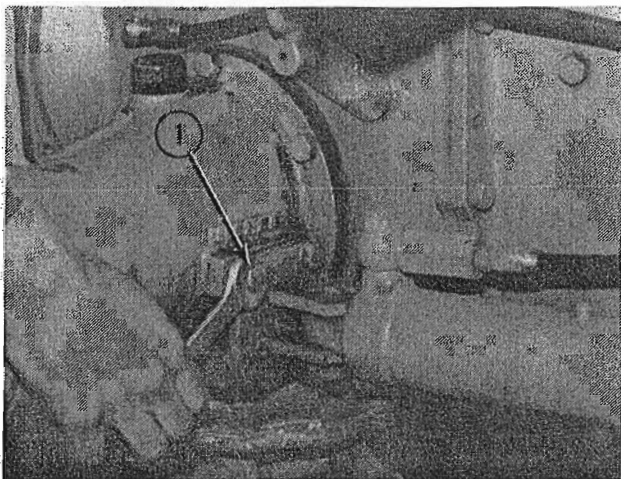

FIG. 1
Disconnect the forward power steering attach bracket from the axle housing by removing the (4) 10 x 30 mm. bolts. (1, Fig. 1)